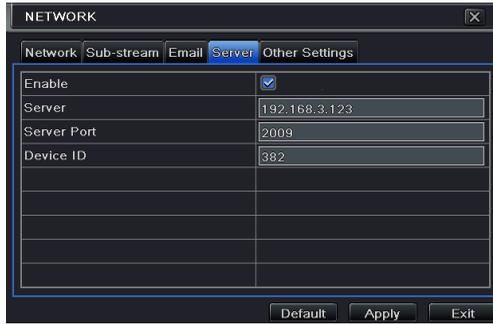

Fig 4-27 Network Configuration-Server
Step 1: In the server interface, select "Enable" as shown in the Fig 4-27.